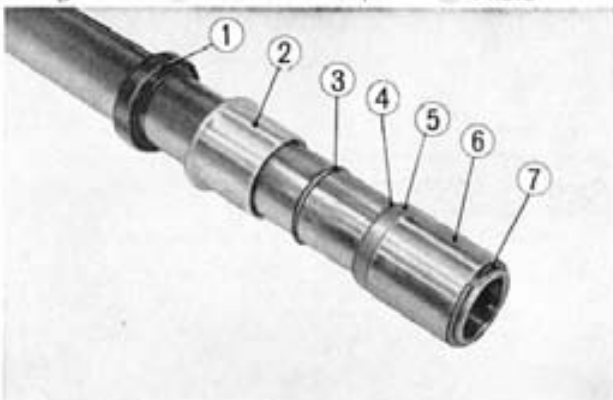

Fig. 11-14
5. By removing the fork piston snap ring, the front fork piston and the front fork damper valve may be disassembled from the front fork pipe. (Fig. 11-14)